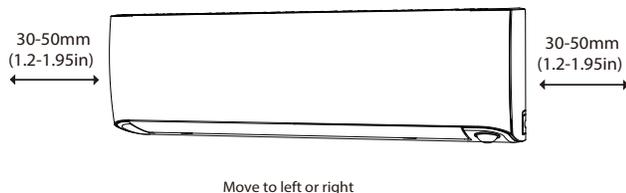

Fig. 9 – Hook Indoor Unit to Mounting Plate
1. **Hook the top of the indoor unit on the upper hook of the mounting plate.** Keep in mind that the hooks on the mounting plate are smaller than the holes on the back of the unit. If you find that you do not have ample room to connect the embedded pipes to the indoor unit, the unit can be adjusted left or right by about 1.25–1.95in. (30–50mm), depending on the model (see Fig. 9).